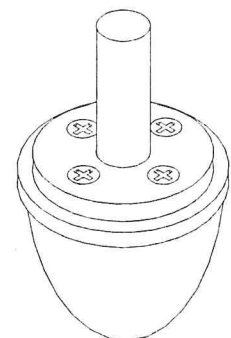

Figure 19
- 3. Select suitable pad and install it in accordance with Figure 19.